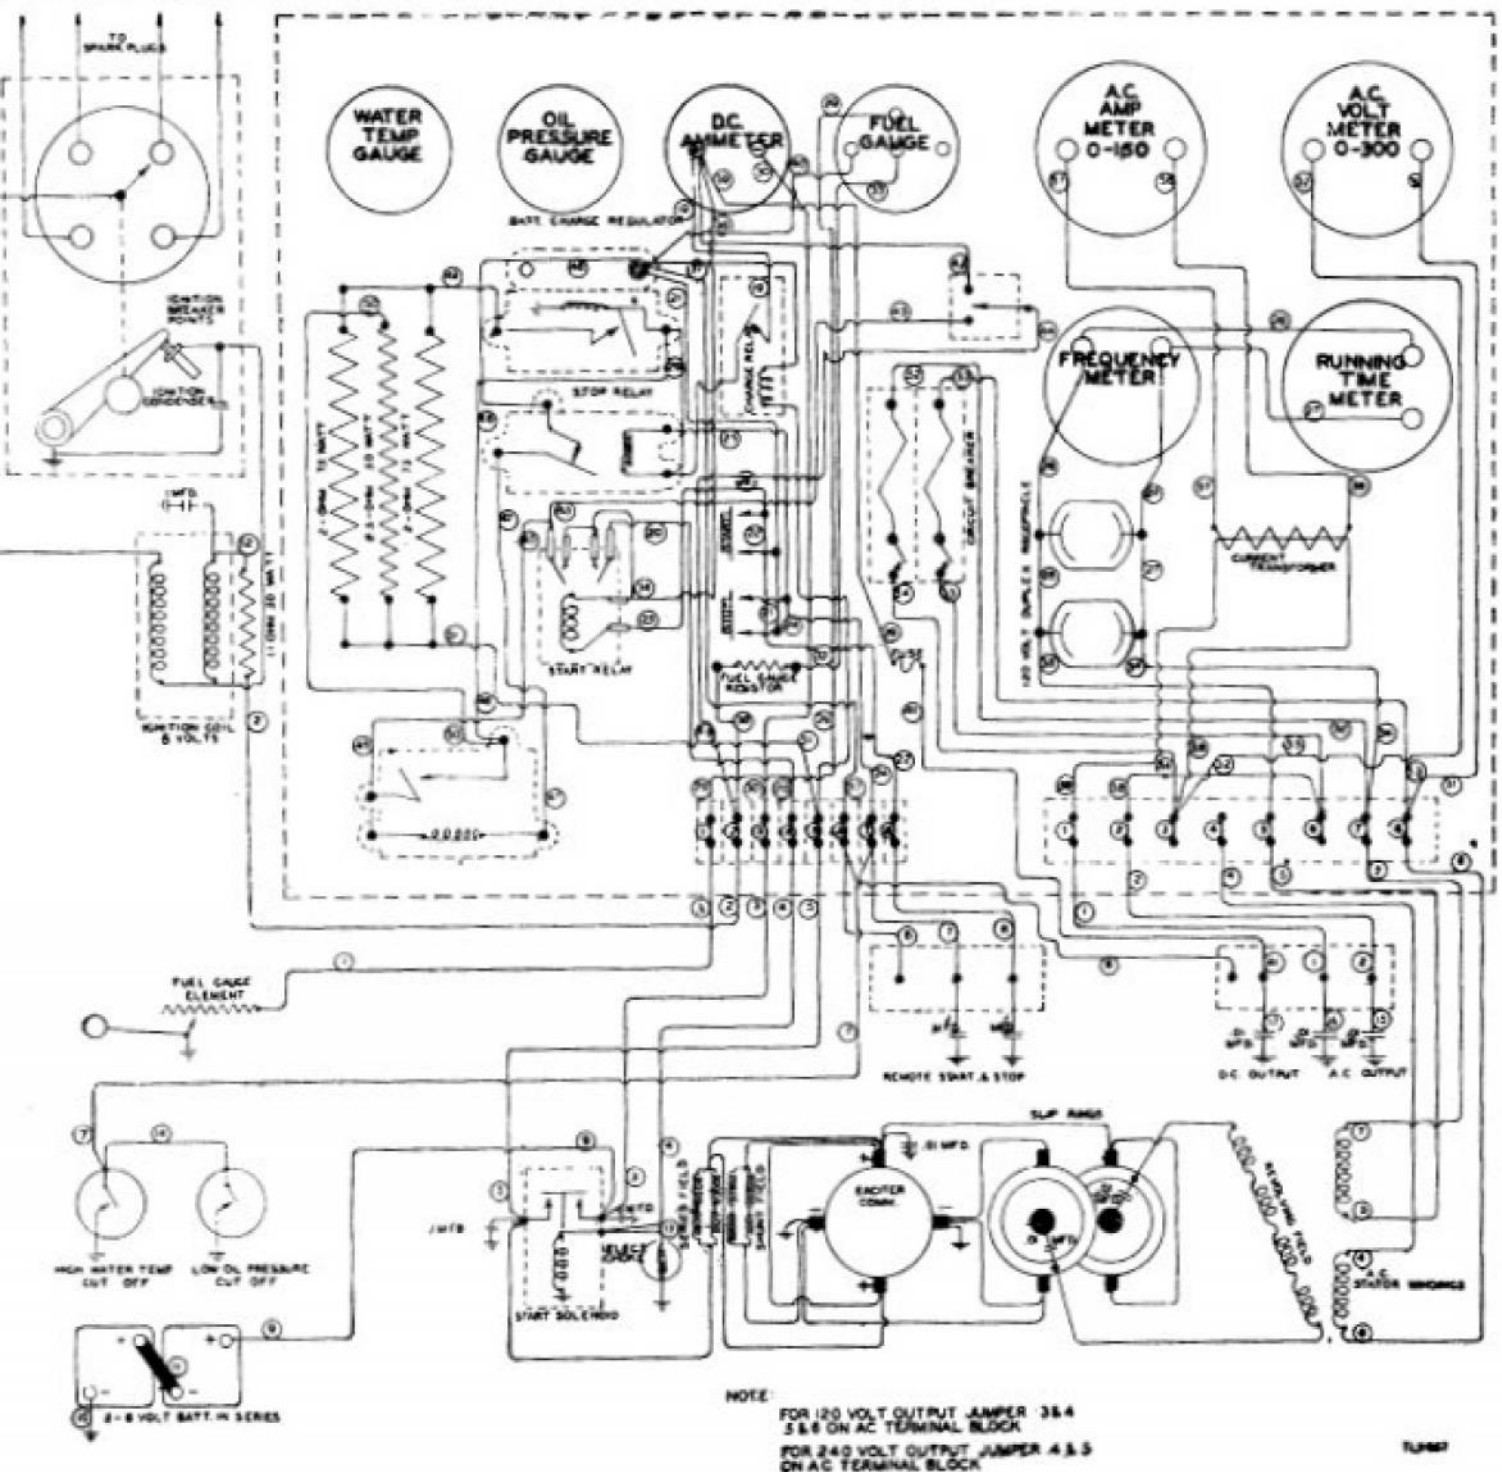

Figure 30. Wiring diagram, Power Unit PE-95-(2).
b. POWER UNIT PE-95-(2). See wiring diagram, figure 30.